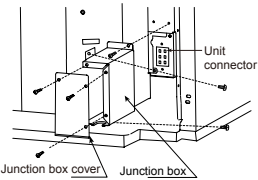

Fig.14—Junction Box Location
* Remove junction box cover by removing three screws from front.Remove junction box by taking out top,rear and side screws.See Fig. 14.